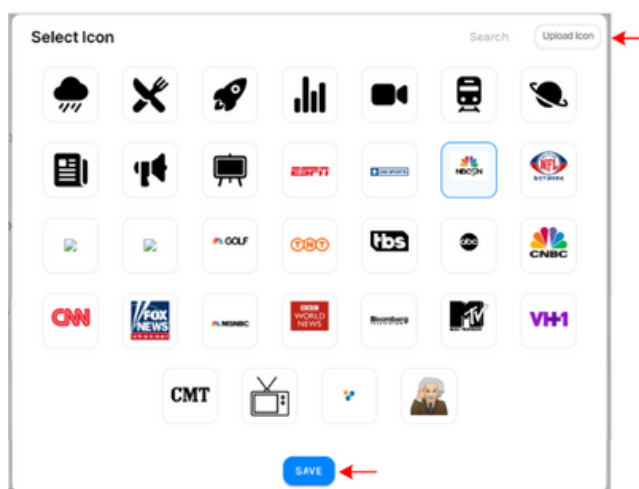

Figure 13
2. Click the "Select" button to assign a specific icon to the device. After clicking, a pop-up window will appear in which there are some images that you can use or you can download images at will to use as icons, after selecting a specific image or downloading it, click on the Save button to finish the process. Figure 13